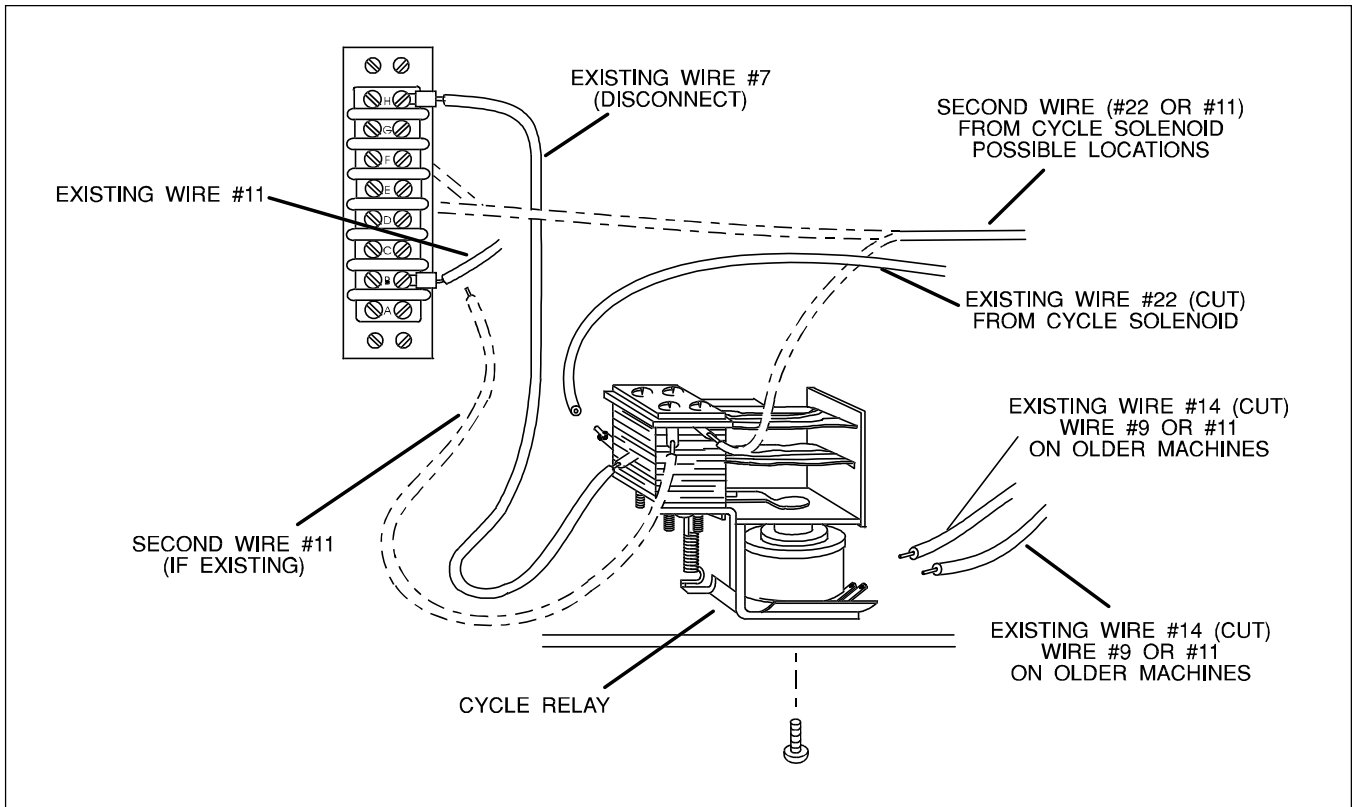

Figure 1. Cycle Relay Removal
4. Cut existing wire #22 (from the cycle solenoid) at its connection to the cycle relay (Figure 1). Strip off 1/4 inch of insulation and
Note: In older machines, the #22 wires may not be marked for identification. If this is the case, it will be necessary to trace them back to the connector in the wire channel. These wires are non-polarized and are interchangeable. Refer to Figure 1 or Figure 10 for cycle solenoid wiring diagram.
6. Cut two (2) #14 wires at the coil connection of the cycle relay. Allow both wires to hang free. On older machines, these two wires will be number 9 and number 11.
7. Inspect terminal B of the high voltage terminal strip TS1. If only one #11 wire is connected to terminal B, the connection is satisfactory. If two (2) #11 wires are connected to terminal B, wire #11 to the cycle relay must be removed from the terminal strip (Figure 1).